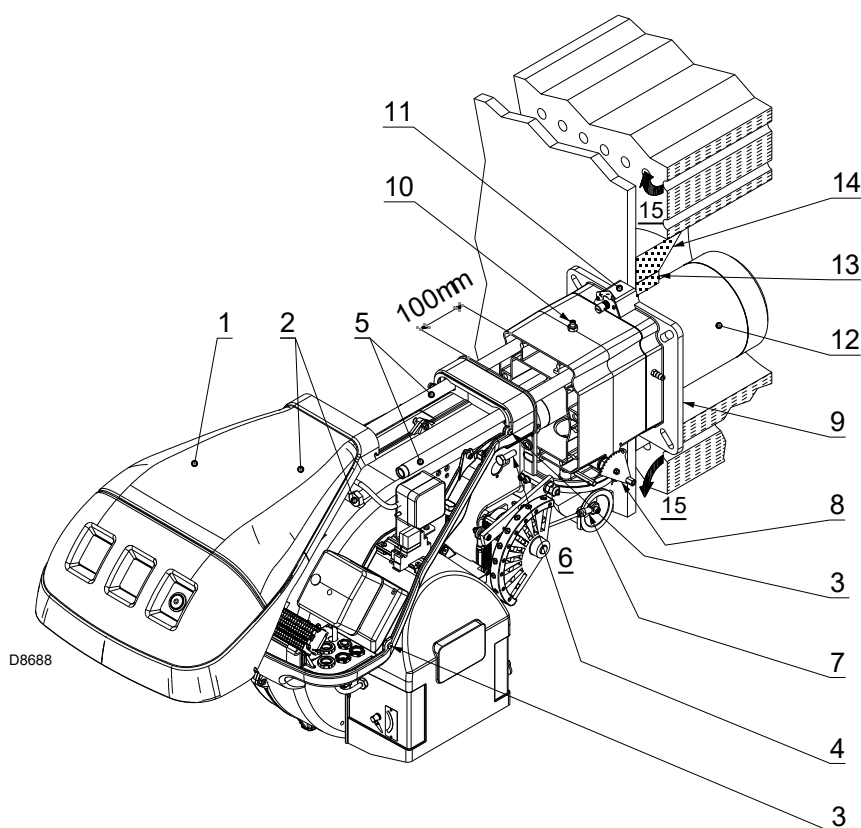

Fig. 12
The length of the blast tube 12)(Fig. 12 on page 16) must be selected according to the indications provided by the boiler manufacturer, and in any case must be greater than the thickness of the boiler door complete with its refractory.
For boilers with a front flue gas passes 15)(Fig. 12 on page 16) or flame inversion chamber, a protection device in refractory material 13) must be inserted between the boiler fettling 14) and the blast tube 12).
Separate the combustion head from the rest of the burner, as shown in Fig. 12.
Once this operation (if necessary) has been carried out, fix the flange 11)(Fig. 12) to the boiler plate, interposing the insulating gasket 9)(Fig. 12) supplied.
- reassemble the burner on the guides 3), about 100mm from the pipe coupling 4) - burner in the position shown in Fig. 12;